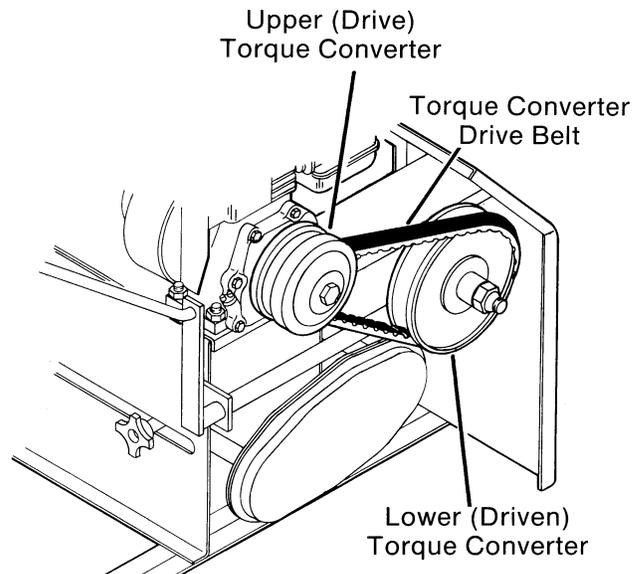

FIG. 11
- B. Rotate inside half of "driven" torque converter pulley clockwise and separate pulley halves. Work belt off bottom of outer "driven" pulley half and then remove from engine "drive" torque converter. (Fig. 11)
- B. Remove rear belt guard and slip torque converter drive belt off pulleys and remove. (Fig. 11)